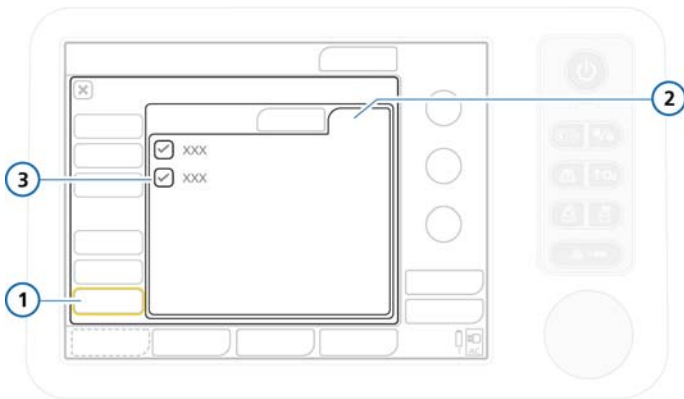

Figure J-14. Enabling the SpO2 option board
1. Open the Configuration window and touch the **Options** button, and then touch the **HW options** tab (Figure J-14).